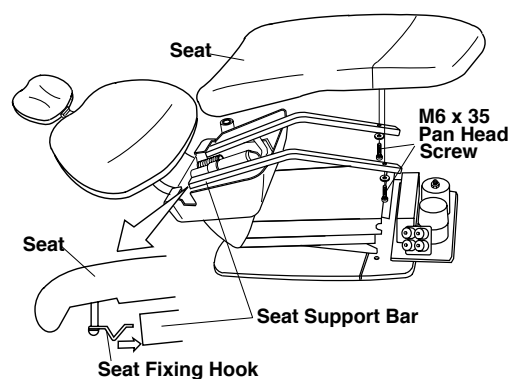

**Fig.3-7** Fixing Backrest Cover and Headrest
(11) Attach the backrest cover to the backrest cushion.
**(Fig.3-7)**
(12) Attach the headrest. **(Fig.3-7)**